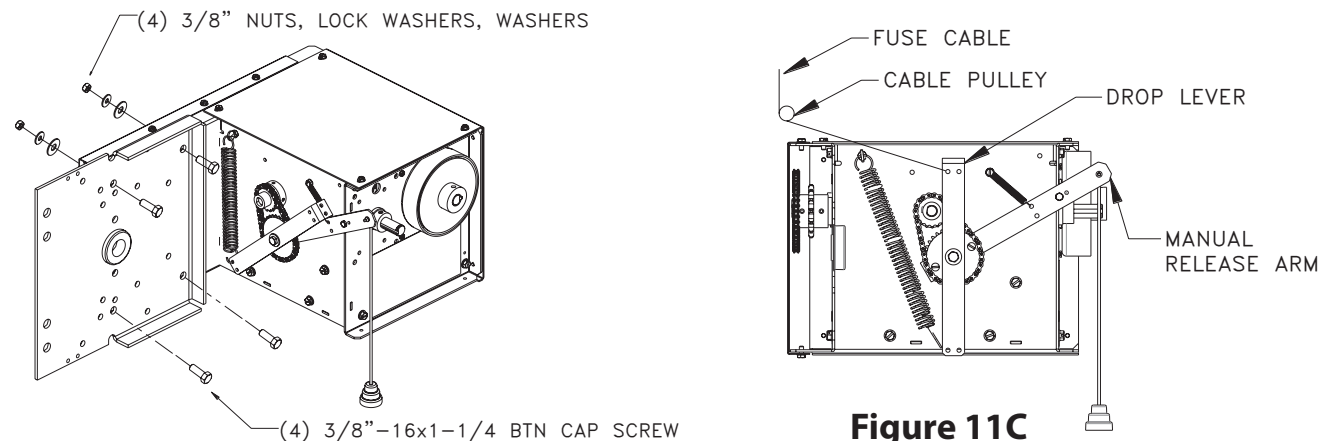

Figure 11C
Install the GCX operator to the bracket with (4) 3/8"-16x1-1/4" button cap screws, nuts, and washers as shown. Install the door sprocket, roller chain, operator wiring, and push button, and set the door limits per the GCX operator supplied instruction manual. The drop lever must be installed so that it is perpendicular to the floor, when the fuse cable is routed and the test handle is engaged. The fuse cable should be routed so that it forms a 90° angle (approximate) to the drop lever (see Figure 11C).
NOTE: For GCX operators, verify that the manual release arm travels fully upward, to re-engage the operator, as shown in Figure 11C.